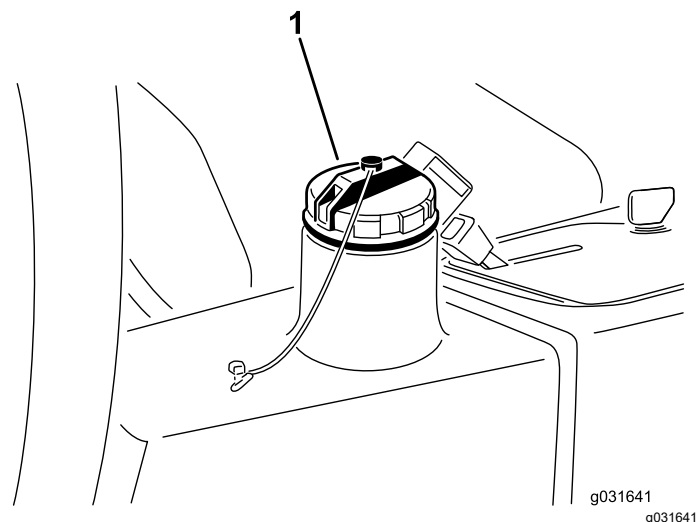

Figure 62
2. Clean the area around the filler neck and hydraulic-tank cap (Figure 62).
3. Remove the hydraulic-tank cap (Figure 62).